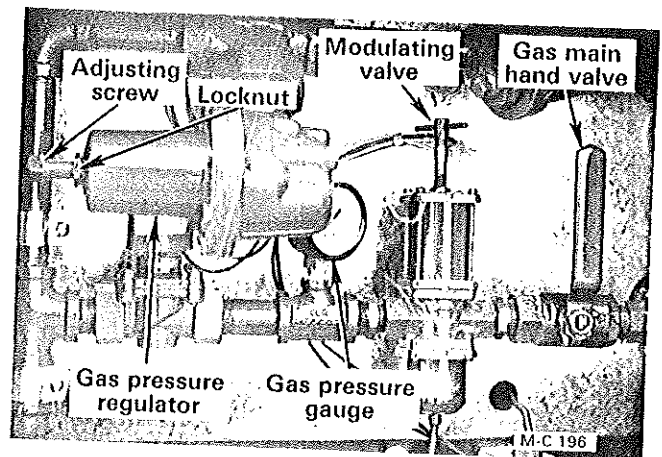

Figure 18
11. LP Gas Only - With the burner operating, check the reading on the gas pressure gauge in the manifold see Figure 18. It should be approximately 8 to 10 pounds (less in mild weather). If not, loosen the locknut on the pressure regulator adjusting screw, see Figure
2. Turn the "T" handle on the modulating valve IN to INCREASE temperature and OUT to DECREASE temperature, see Figure 18.